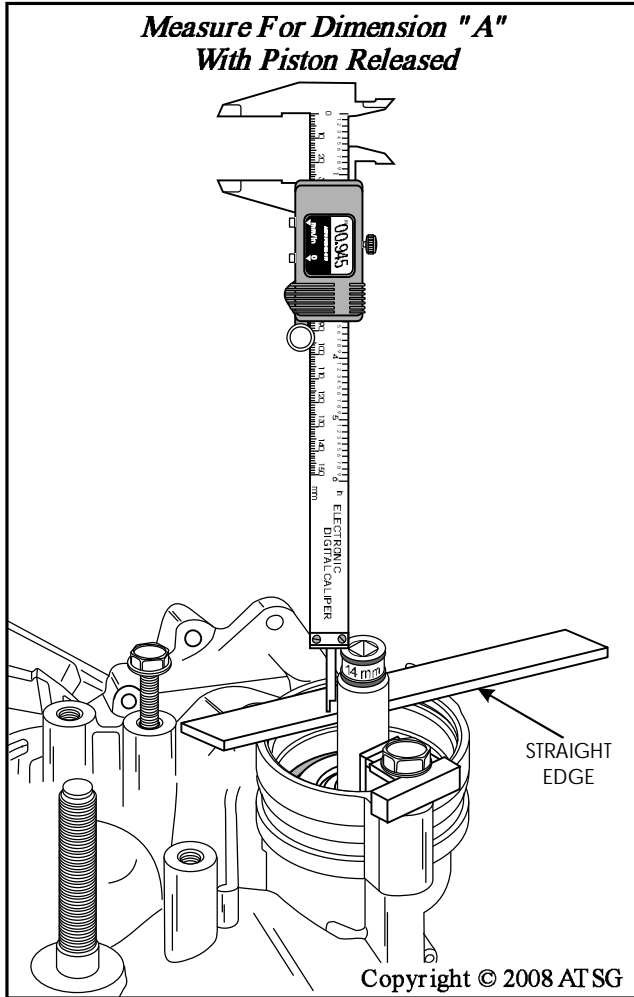

Figure 218
12. Using a digital caliper measure from the top of 14 mm deep socket, down to a straight edge placed on machined surface of transaxle case, as shown in Figure 218.